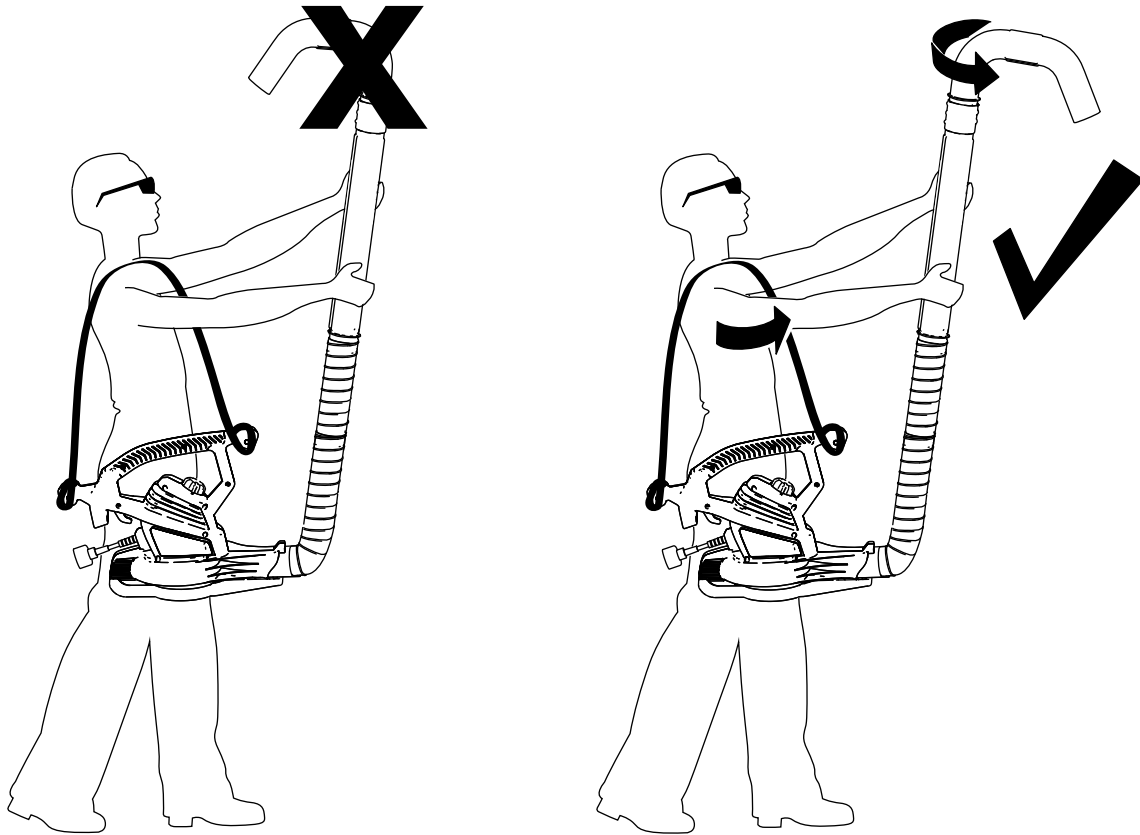

Figure 4
1. Hold the tube assembly with both hands, keeping the blower against your hips, the nozzle facing outward, and the inlet facing the ground (Figure 4).